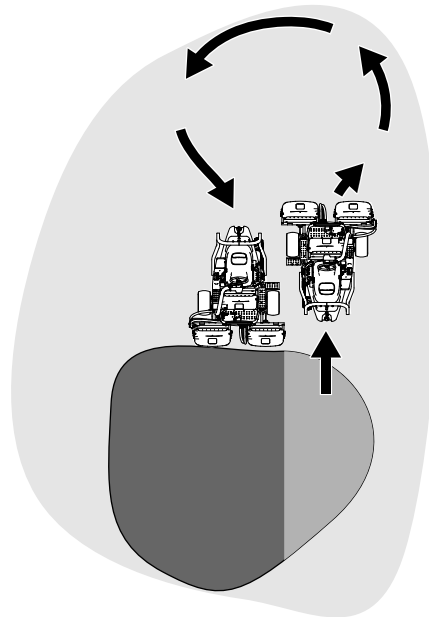

Figure 29
6. To cut down on operating time and to ease the lineup for the next pass, momentarily turn the machine in the opposite direction, then turn it in the direction of the uncut portion. This movement is a tear-shaped turn (Figure 29), which quickly lines the machine up for your next pass.